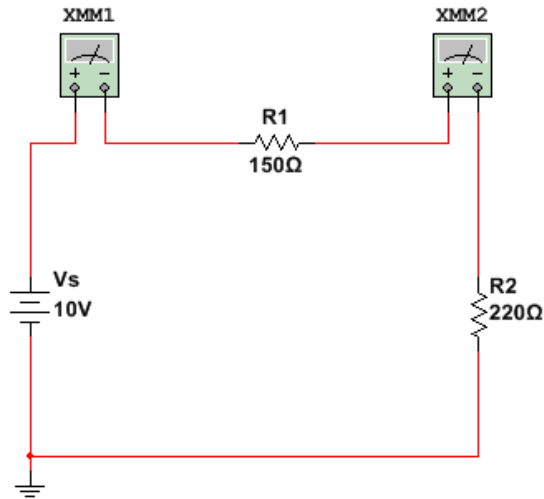
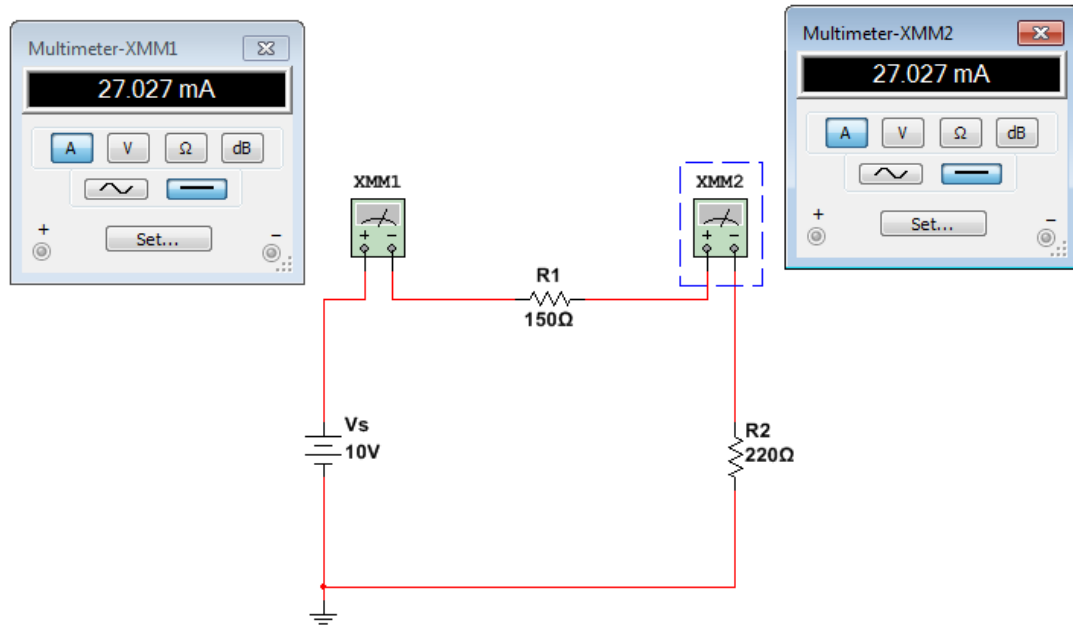

Figure 4.13 – Measuring the current through 150 Ω and 220 Ω resistors
Figure 4.15 – To measure current through R1 and R2
- Obtain another multimeter from the instrument toolbar and connect the multimeter in between the break. Check Figure 4.13.
- Since the circuit at Figure 4.13 is set to measure dc current, to do so, click on Ammeter  to measure the current flowing the circuit in a branch between the two nodes. Check Figure 4.15.